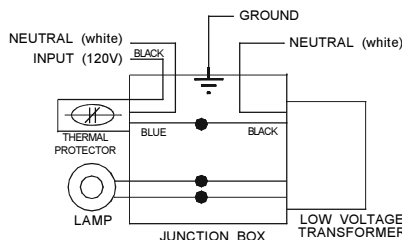

FIG.5
3. Complete the connections (Fig.5) following the wiring diagram.